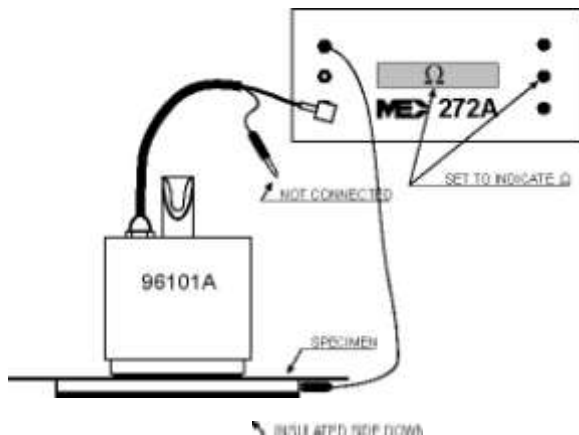

Figure 5
Most materials commonly being tested in today's world of ESD awareness are intended not to be electrically insulative. For specimens that have negligible surface leakage, an unguarded measurement based on the actual area of the (1.2" dia.) center electrode greatly simplifies the calculations. For material samples less than 0.060" thick, the errors introduced into an unguarded measurement are usually small enough to be negligible. Connections for unguarded measurements are given in Figure 5. Factors for converting meter readings (in Ω) directly to volume resistivity (unit $\Omega \bullet \text{cm}$) are presented in Table 1.
- 1) Arrange test setup as in Figure 5.